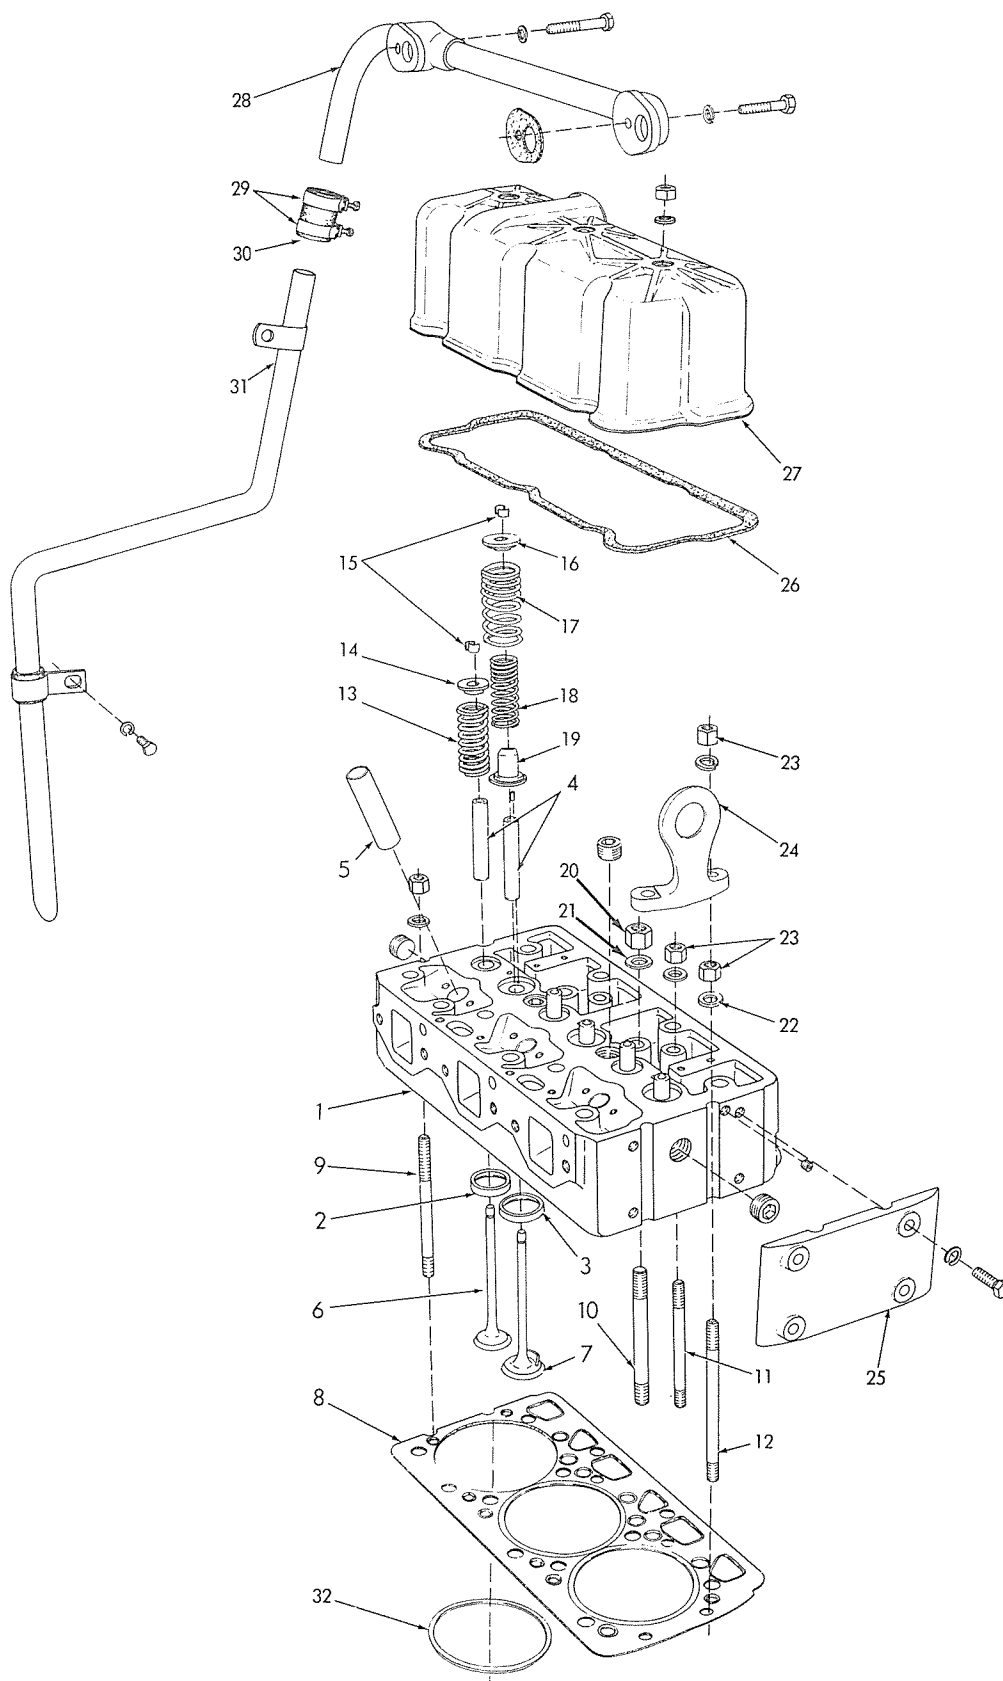

Fig. 1 — Cylinder Head Assembly Details
The cylinder heads are a one-piece alloy iron casting with cored passages provided for the intake of air, expulsion of exhaust gases, and the circulation of coolant. To seal pressures and the coolant within the engine, cylinder head gaskets are positioned between the cylinder heads and the cylinder block. There are two types of cylinder head gaskets used. The early type is a one piece gasket and the late type consists of a cylinder head gasket with individual cylinder sleeve gaskets, Fig. 1 (8) (32).
Legend for Fig. 1